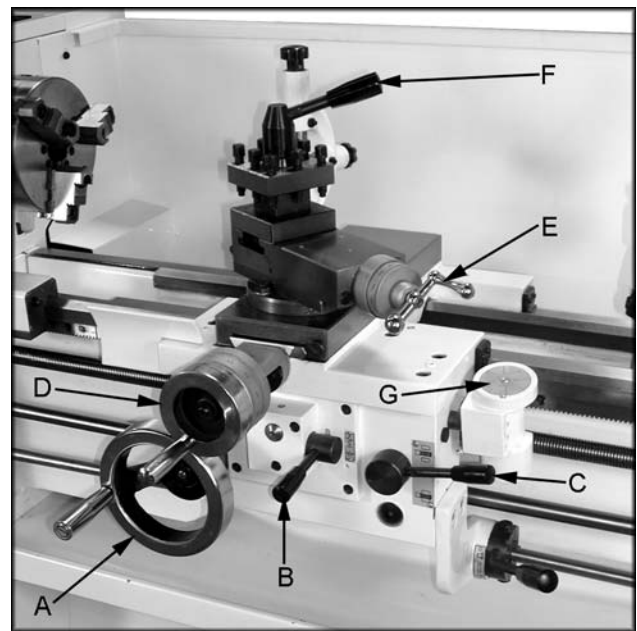

Fig. 12
14. **Longitudinal Traverse Hand Wheel (A, Fig. 12)** - Rotate hand wheel clockwise to move the apron assembly toward the tailstock (right). Rotate the wheel counter-clockwise to move the apron assembly toward the headstock (left).
15. **Feed Selector (B, Fig. 12)** - Push lever to the left and down to activate the crossfeed function. Pull lever to the right and up to activate the longitudinal function.
16. **Half Nut Engage Lever (thread cutting) (C, Fig. 12)** - Move the lever down to engage. Move the lever up to disengage.
17. **Cross Traverse Handwheel (D, Fig. 12)** - Clockwise rotation moves the cross slide toward the rear of the machine.
18. **Compound Rest Traverse Handwheel (E, Fig. 12)** - Rotate clockwise or counter-clockwise to move or position.
19. **Tool Post Clamping Lever (F, Fig. 12)** - Rotate counter-clockwise to loosen and clockwise to tighten. Rotate the tool post when the lever is unlocked.
20. **Threading Dial (G, Fig. 12)** - Engage by pushing into the leadscrew. Pull out to disengage. The dial indicator and chart will specify at which point a thread can be entered.